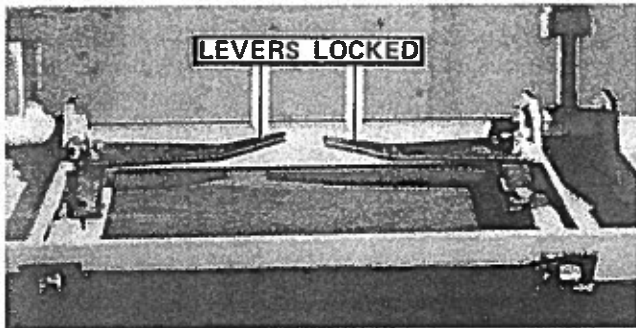

FIGURE 9
To lock attachments, first check that lock pins align with, and enter freely into attachment's slots; then rotate levers inward and down locking into the over-centre position, as shown in FIGURE 9.
4. Rotate attachment lever inward and down locking into the over-centre position, as shown in **FIGURE 9**.